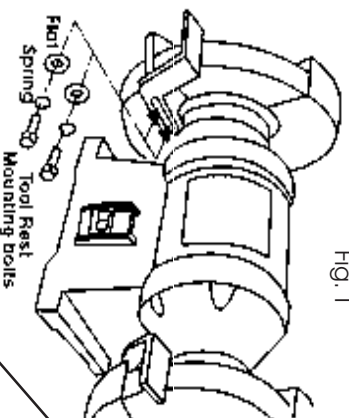

Fig. 1
1. Fix the Tool Rests, with the screws and washers provided, in the manner shown in Fig. 1. The Tool Rests are adjustable and should be positioned 1/16" (1.6mm) from the grinding wheels. Ensure that the Tool Rest is firmly fixed and horizontal.